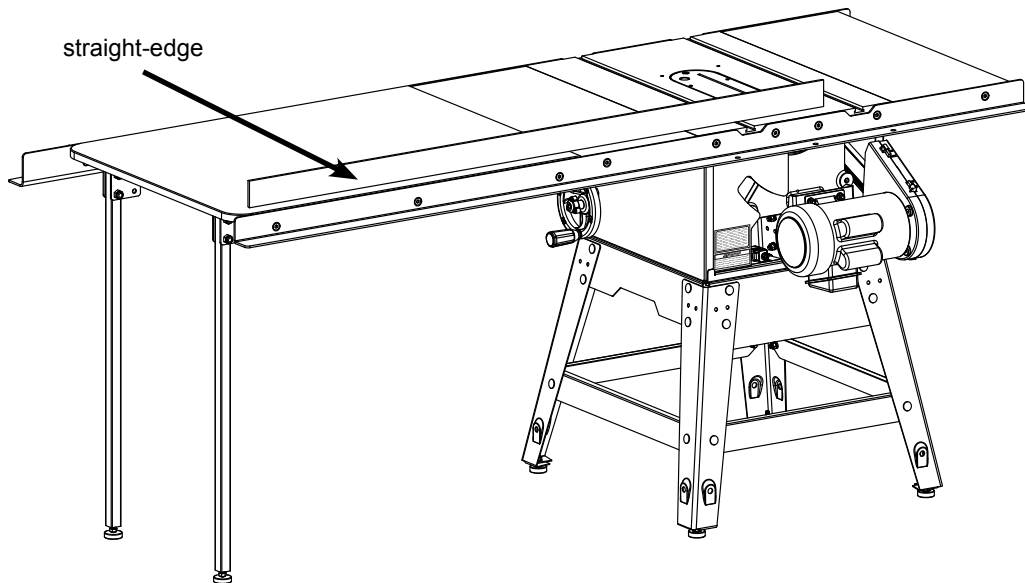

Fig. 15
15. Repeat the process described in the previous step to level the rear edge of the extension table to the cast iron table top (see Fig. 15).